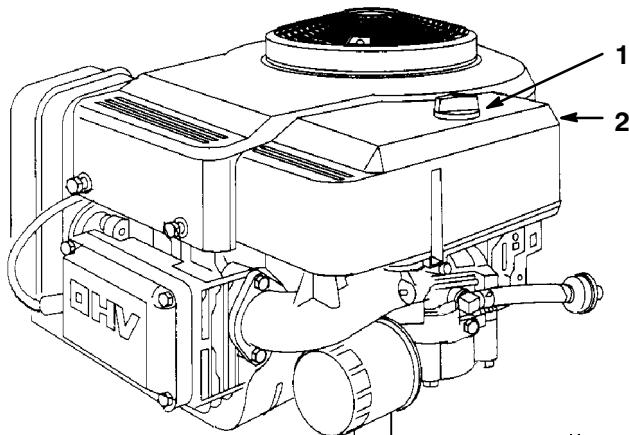

Figure 24
3. Clean around the air cleaner to prevent dirt from getting into the engine and causing damage. Unscrew the knob and remove the air cleaner cover (Fig. 24).
3. Install the air cleaner cover and knob (Fig. 24). Tighten the knob snugly.